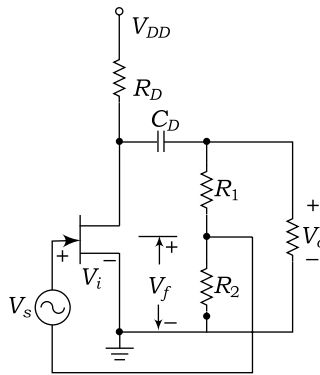

Fig. 4.51
15. Compute the gain with and without feedback for an FET amplifier as shown in Fig. 4.51 for $R_1 = 500 \text{ k-ohms}$, $R_2 = 250 \text{ k-ohms}$, $R_o = 40 \text{ k-ohms}$, $R_D = 8 \text{ k-ohms}$ and $g_m = 1000 \mu\text{s}$.